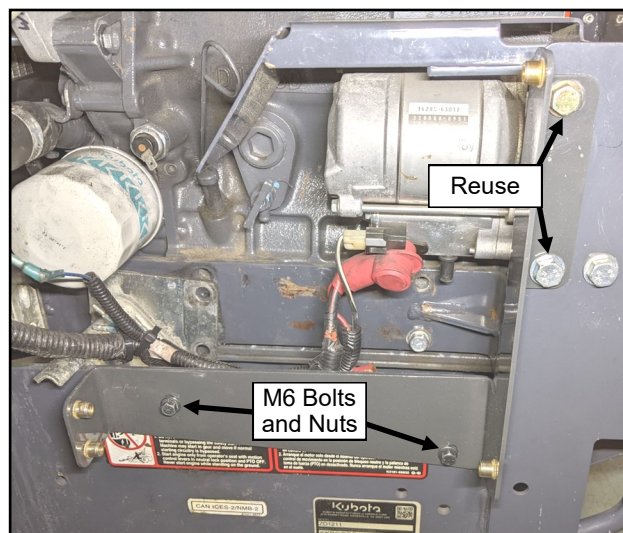

Fig. 1.7 (Install shroud mounting bracket)
1.7 See fig. 1.7. Remove and reuse two OEM bolts and install the shroud mounting bracket. Secure the bottom of the bracket with two M6 bolts and two M6 nuts.